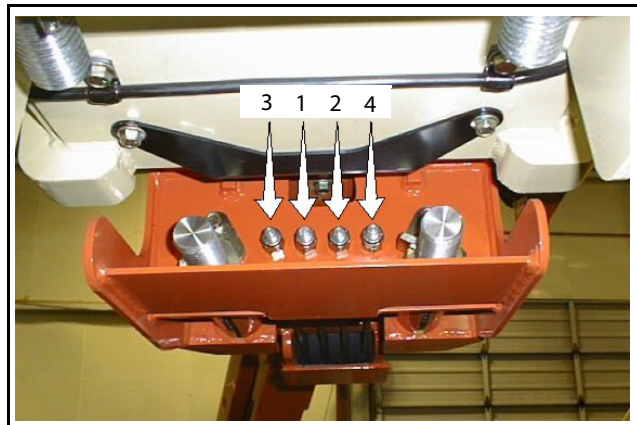

Figure 4-35. Torque Sequence for Fly Extend Rope
- Using tool JLG PN 4120040, torque the Fly Extend Adjustment Nuts to 10 ft-lb (13.5 Nm), starting with the inside ropes and doing the outside ropes last. Refer to Figure 4-35., Torque Sequence for Fly Extend Rope. Alternate between the four ropes until all maintain the required torque.